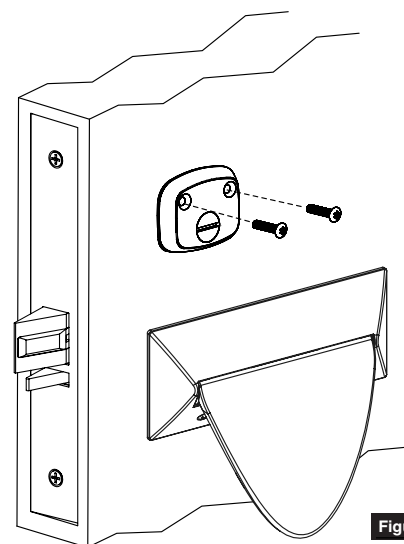

Figure 26
1. Install coin-turn using two surface mount screws. (Figure 26)